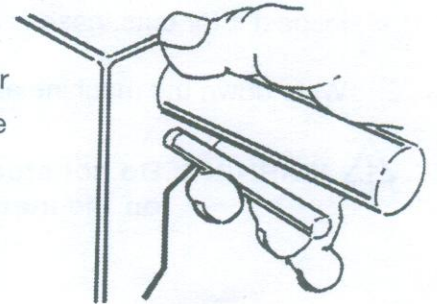

fig 6
5. The safety "lock-out" lever is located underneath the right side handle grip and switch lever. To unlock the "lock-out" lever, use your right hand fore finger to press the lever down toward the back of the switch box. (Figure 6)